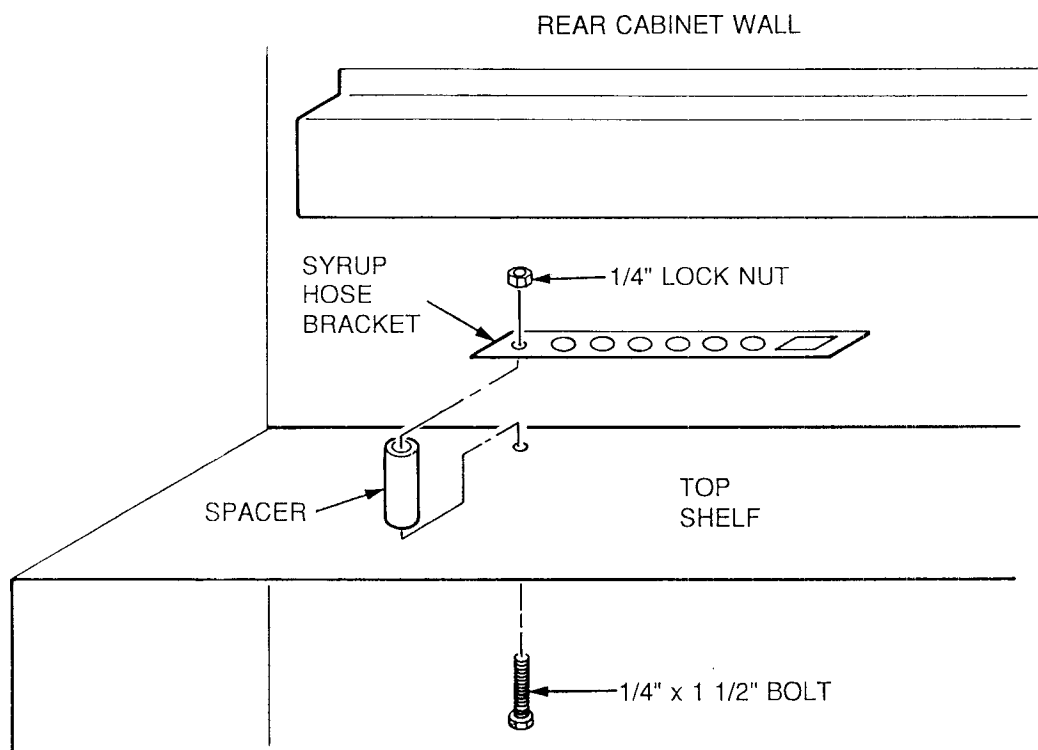

Figure 13. Top Bag-In-Box Shelf Mounting Location
38. See figure 13. Place the spacer between the top shelf and the syrup hose bracket (first hole on left). Secure the shelf to the bracket using the bolt and nut as shown.